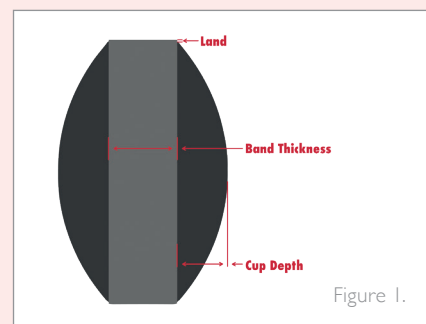

Figure 1.
- Land. The land is a narrow plain perpendicular to the tablet's band, creating a junction between the band and cup radius. Although the punch is made out of steel, the area at the perimeter of the tip is very weak so a land should be incorporated into the tablet to strengthen the punch and prevent nicks on the punch edge, which could cause compression issues (see figure 1).